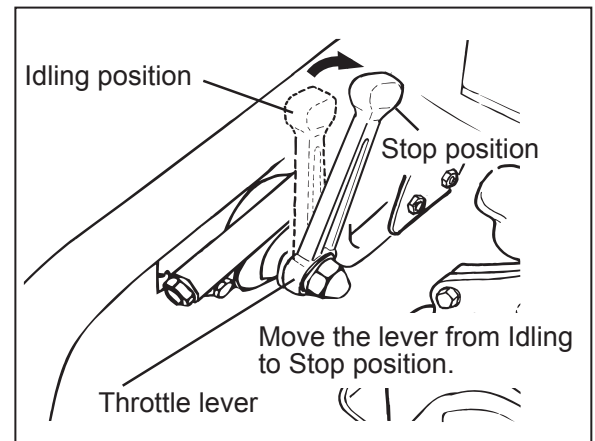

Fig. 6
- 6-1 Move throttle lever quickly from idle to STOP while pressing the throttle lever button. Run the engine for three minutes at idle speed to allow for proper cool down. Following above procedure will prevent improper cylinder lubrication caused by overheated engine.(Fig.6)